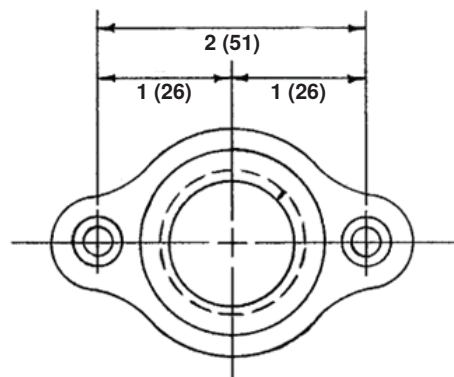

Figure 12. Waste Nut
- Using waste nut (see **Figure 12**) as template, drill three holes—one 3/4-inch drain hole and two 1/4-inch fastener holes in furnace cabinet's bottom pan.